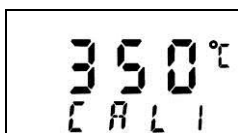

Fig.12
- 1 In the main menu, press knob for 6 seconds into the "CALI " mode (see Fig.12), rotate around the shuffle knob and input the real temperature.
For example : "set.Temp" is 350℃, "Real Temp." is 320℃, after temperature calibration as Fig 12.,temperature will rise to 350℃.